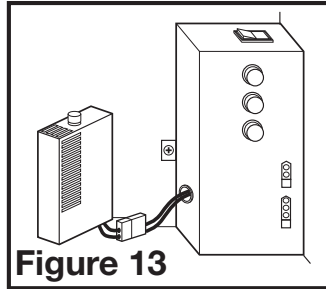

Figure 13
- 3c. **MOTION SENSING MODELS:** Plug the fan's 2 pin and 3 pin quick connect motor cords into the receptacles located on the side of the wire compartment. Plug the 3 pin quick connect cord from the motion sensor on the grill into the receptacle coming out of the top of the wire compartment. These cords will only fit one way into the receptacles (**Figure 13**).